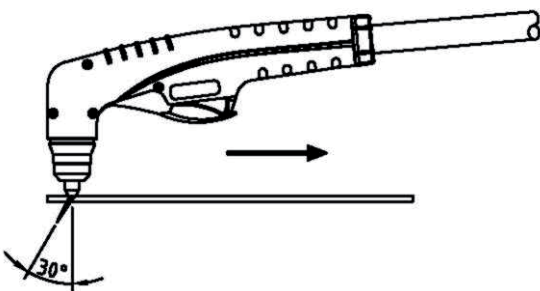

Figure 5
- Once on, the main arc remains on as long as the control switch is held down, unless the torch is withdrawn from the work or torch motion is too slow. Keep moving while cutting. Cut at a steady speed without pausing. Maintain the cutting speed so that the arc lag is about 30° behind the travel direction. Fig. 5